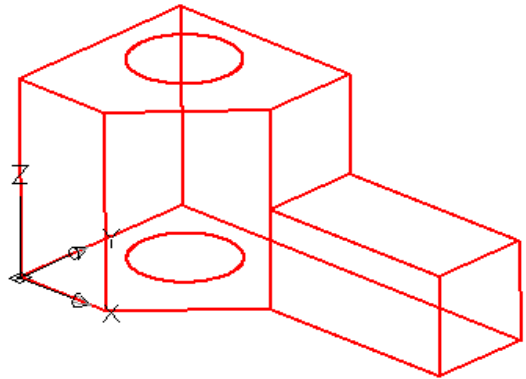

Figure Step 13
Step 13 Using the LINE command, draw three lines between the ends of the existing lines as shown in Figure Step 13. Ensure you snap to the ends of the existing lines.